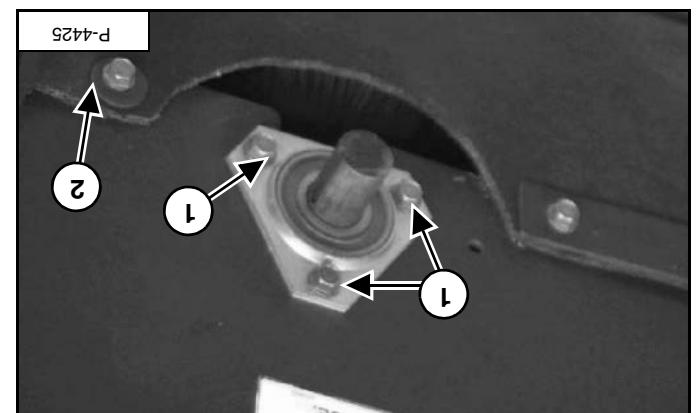

Figure 120
The rubber side cover (item 2) [Figure 120] onto the bearing can be tightened or installed if needed.
Install the bolts (item 1) [Figure 120] onto the bearing mounting flange (both ends).